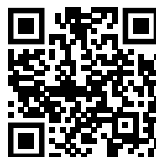

Fig. 144
- ▶ Open Liebherr SmartMonitoring Dashboard. (see Fig. 144)